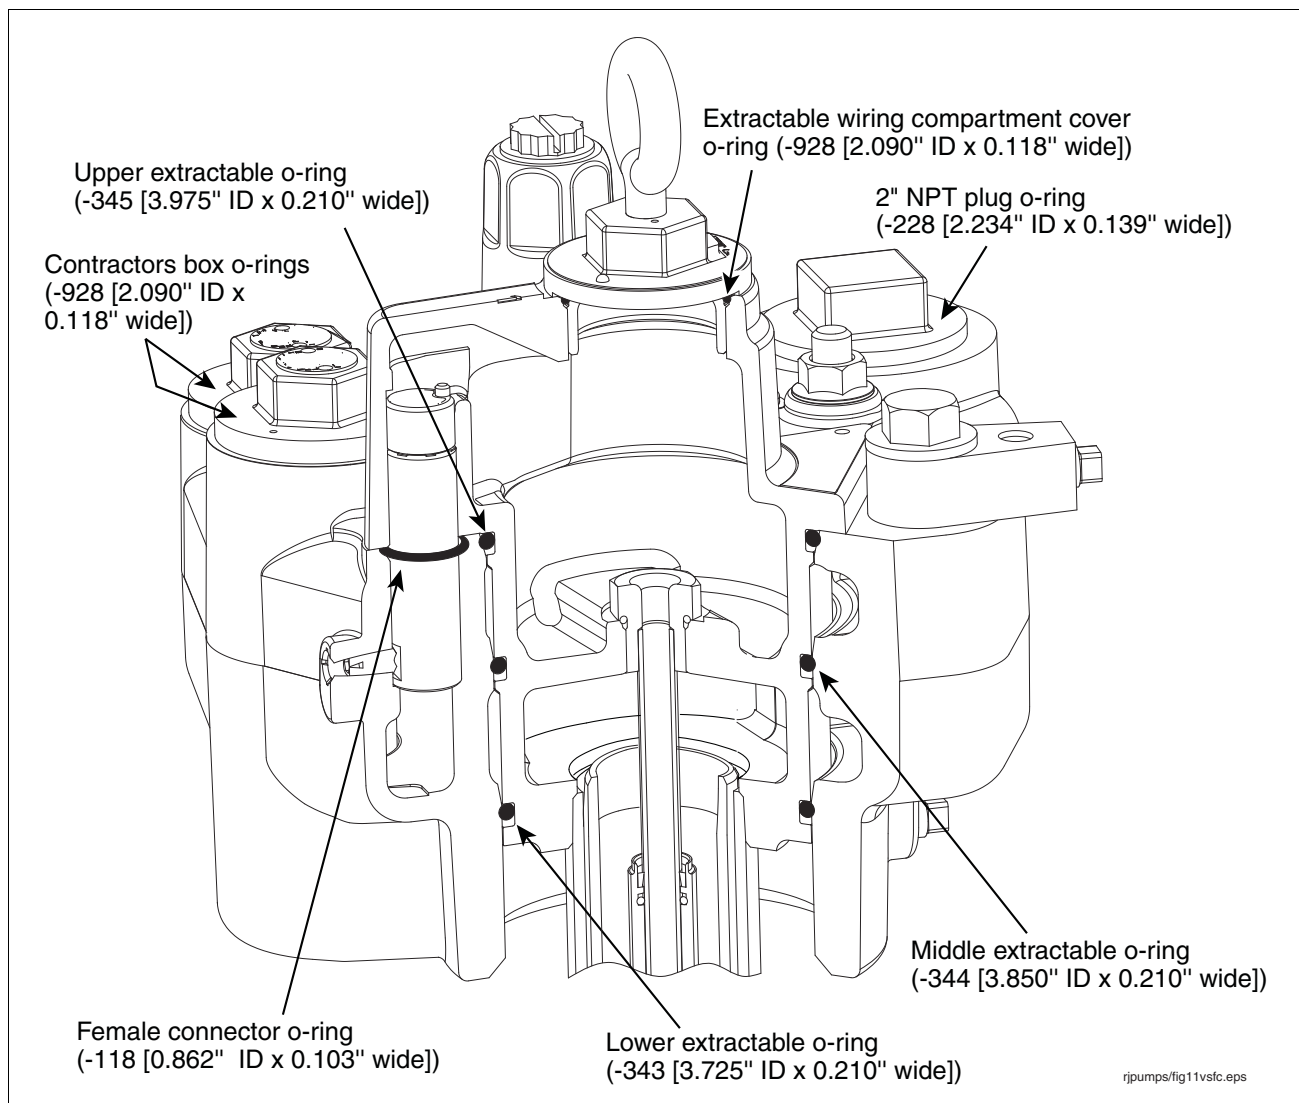

Figure 25. Locating packer and manifold o-rings
9. Get the three extractable o-ring seals (3.975" ID x 0.210" wide [upper], 3.850" ID x 0.210" wide [middle], and 3.725" x 0.210" wide [lower]) from the hardware/seal kit. The three o-rings are very close in size so take extra care to distinguish each one before replacing them in the extractable. Lubricate each o-ring with petroleum jelly and then install them in their assigned grooves in the extractable (see Figure 25).
10. Remove the manifold's female connector's o-ring (see Figure 25). Get a 0.862" ID x 0.103" wide o-ring from the kit and lubricate it with petroleum jelly. Slide the o-ring over the female connector and push it down into its groove.
17. Get the three extractable o-ring seals (3.975" ID x 0.210" wide [upper], 3.850" ID x 0.210" wide [middle], and 3.725" x 0.210" wide [lower]) from the hardware/seal kit. The three o-rings are very close in size so take extra care to distinguish each one before replacing them in the extractable. Lubricate each o-ring with petroleum jelly and then install them in their assigned grooves in the extractable - see Figure 25 on page 25.
18. Remove the manifold's female connector's o-ring - see Figure 25 on page 25. Get a 0.862" ID x 0.103" wide o-ring from the kit and lubricate it with petroleum jelly. Slide the o-ring over the female connector and push it down into its groove.